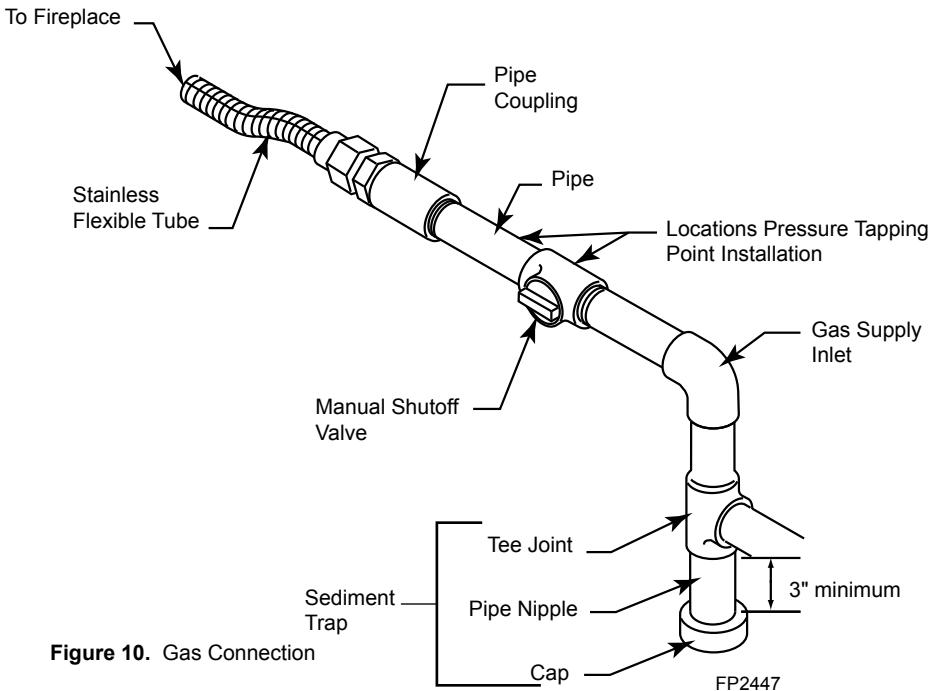

Figure 10. Gas Connection
4. Plumb gas line. Refer to the Connect the Gas (page 11, Figure 10) section found in this manual. (Gas connections should only be performed by an experienced, licensed/certified service person).
A manual shutoff valve must be installed upstream of the appliance. Union tee and plugged 1/8" NPT pressure tapping point should be installed upstream of the appliance. Figure 10
A sediment trap should be installed upstream of the pipe to appliance controls to prevent moisture and contaminants from passing through the pipe to appliance controls and burners. Failure to do so could prevent the appliance from operating reliably. Figure 10